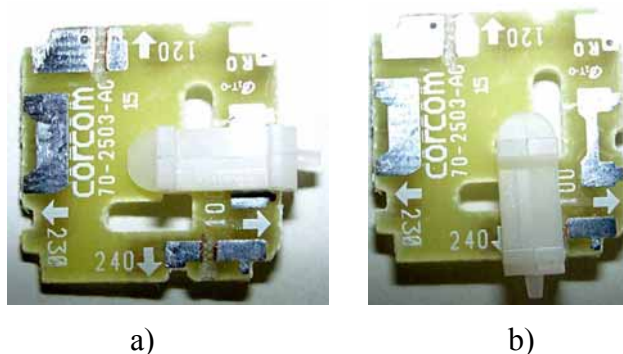

Fig. 6: Voltage selector board settings
- Turn the board so that you see the correct voltage selection, as shown in → Fig. 6.
- Without turning the board, adjust the plastic clip as required for the mains voltage (→ Fig. 6). Make sure that the clip locks into position.